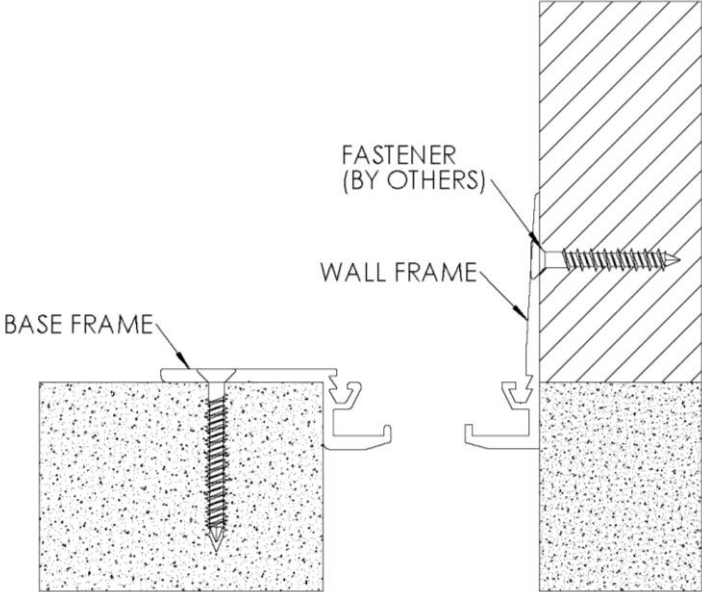

FIGURE 2
- 2. Position the wall frame into position, making sure the top channel is level with the top channel of the base frame. Attach the wall frame to the wall with appropriate fasteners (by others) for the wall type 18” o.c. **See Figure 2**